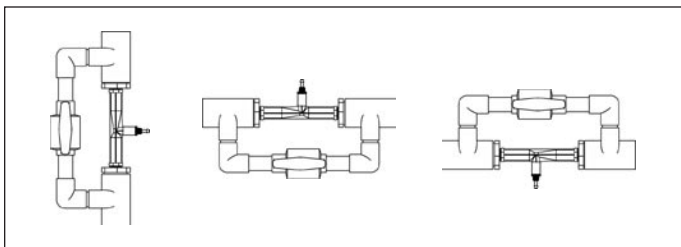

Figure 2 DEL Adjustable Injector Manifold
**2D-1. Plumbing the Injector Manifold:** The 2" DEL Adjustable Injector Manifold (Figure 2) must be installed in the pool's main return line after all other pool equipment (pump, filter, and heater).